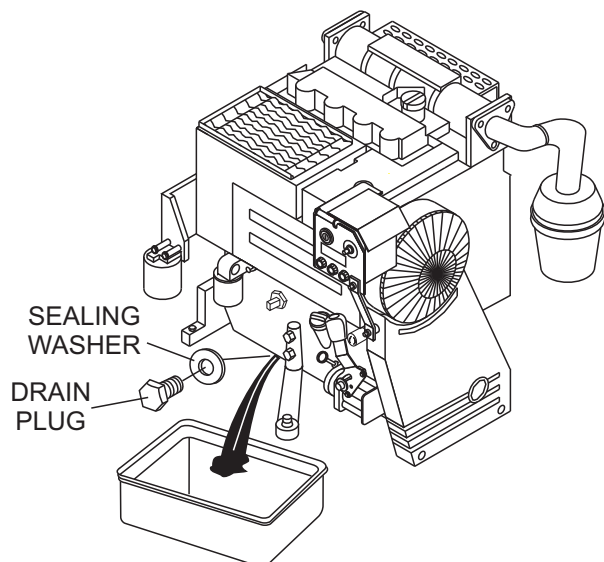

Figure 18. Oil Drain
2. Remove drain plug (Figure 18) and sealing washer let engine flow into a suitable container while engine oil is still warm.